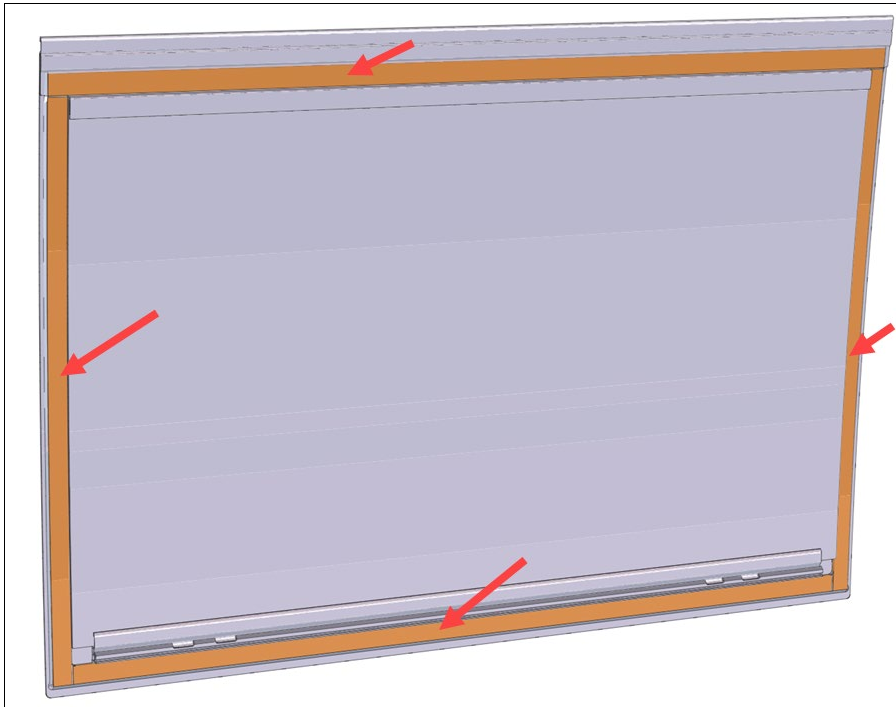

Figure 13 : plastic slat
10. In preparation to adhesive application, clean the identified area on the inner side of the windowpane i.e. plastic slat, using silicone remover (anti-silicone) 622989 (refer to Figure 13).